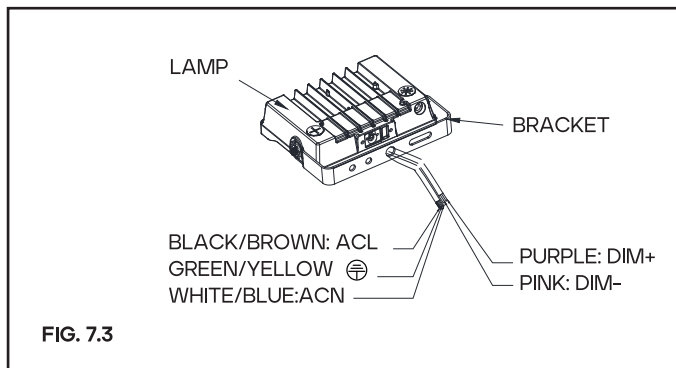

FIG. 7.3
STEP 2. Finish the wire connection according to the right mode of connection (pay attention to positive wire, negative wire, and ground wire), **FIG. 7.3**